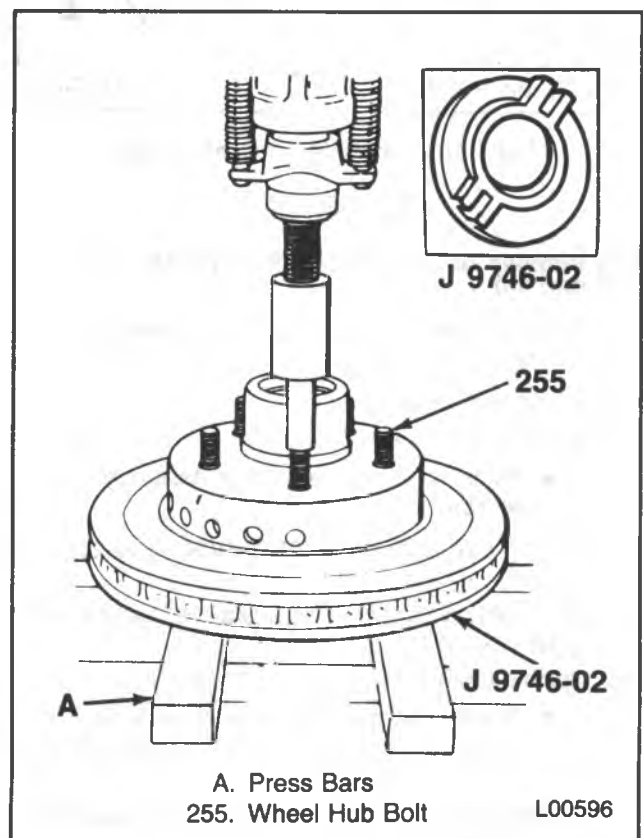

Figure 55 — Removing the Hub Bolts
↔ Remove or Disconnect (Figure 55)
2. Wheel hub bolts (255) with a press.
- Support the hub/rotor using J 9746-02 to prevent damage to the rotor face (figure 55).